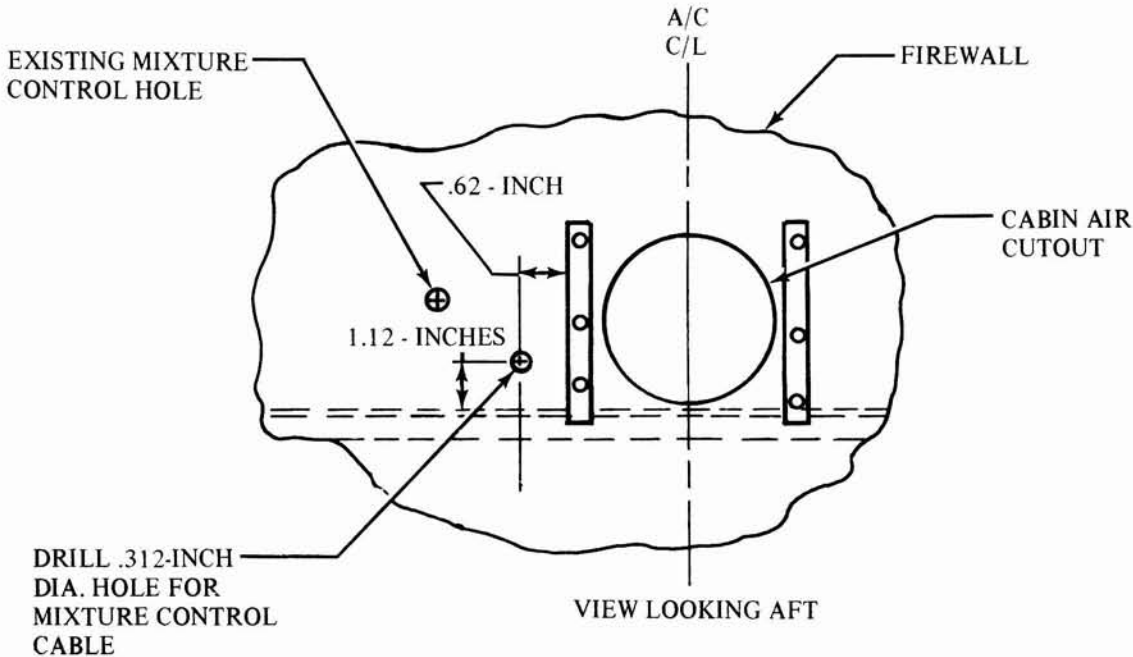

Figure 2. Mixture Control Routing
shown in Figure 2.
4. Drill a .312-inch diameter hole through the firewall as shown in Figure 2.